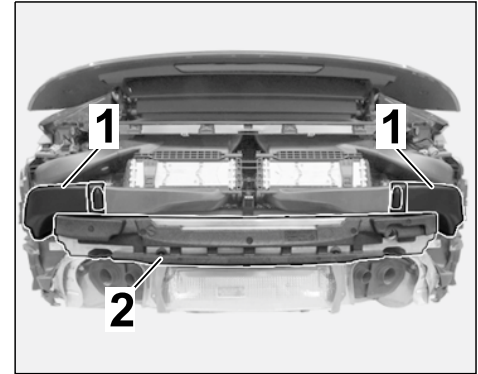

Figure 4
- 1.5 Remove rear bumper (⇒ *Workshop Manual '635019 Removing and installing rear bumper'*, ⇒ *Figure 4*)